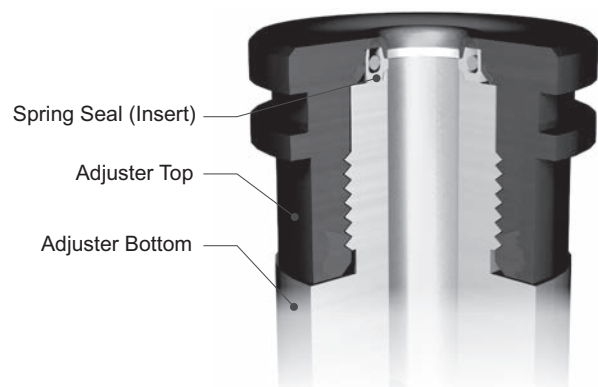

**Figure 48: Funnel Tube**
- iv. Insert Funnel Tube, chamfer side first, over the Plunger and Spring Seal (Adjuster Top). Stop when Spring Seal (Adjuster Top) is about half way inside the Funnel Tube as shown in Figure 48.